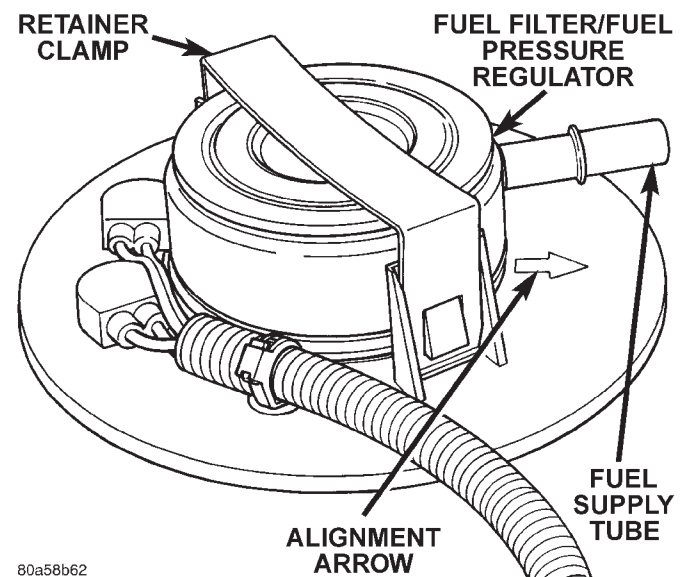

Fig. 22 Fuel Filter/Fuel Pressure Regulator
(1) Remove fuel tank. Refer to Fuel Tank Removal/Installation.
(2) Clean area around filter/regulator.
(3) Disconnect fuel line at filter/regulator. Refer to Quick-Connect Fittings in this group for procedures.
(4) Remove retainer clamp from top of filter/regulator (Fig. 22). Clamp snaps to tabs on pump module. Discard old clamp.
(5) Pry filter/regulator from top of pump module with 2 screwdrivers. Unit is snapped into module.
(1) Clean recessed area in pump module where filter/regulator is to be installed.
(2) Obtain new filter/regulator (two new o-rings should already be installed).
(3) Apply a small amount of clean engine oil to o-rings. **Do not install o-rings separately into fuel pump module. They will be damaged when installing filter/regulator.**
(4) Install new gasket to top of fuel pump module.
(5) Press new filter/regulator into top of pump module until it snaps into position (a positive click must be heard or felt).
(6) The molded arrow (Fig. 22) on top of fuel pump module should be pointed towards front of vehicle (12 o'clock position).
(7) Rotate filter/regulator until fuel supply tube (fitting) is pointed to 10 o'clock position.
(8) Install new retainer clamp (clamp snaps over top of filter/regulator and locks to flanges on pump module).
(9) Connect fuel line at filter/regulator. Refer to Quick-Connect Fittings in this group for procedures.
(10) Install fuel tank. Refer to Fuel Tank Removal/Installation.
- (1) Using a new gasket, position fuel pump module into opening in fuel tank.
- (2) Position locknut over top of fuel pump module.
- (3) Rotate module until arrow (Fig. 22) is pointed toward front of vehicle (12 o'clock position). This step must be done to prevent float/float rod assembly from contacting sides of fuel tank.
- (4) Install Special Tool 6856 to locknut.
- (5) Tighten locknut to 62 N·m (45 ft. lbs.) torque.
- (6) Rotate fuel filter/fuel pressure regulator until its fitting is pointed to 10 o'clock position.
- (7) Install fuel tank. Refer to Fuel Tank Installation in this section.